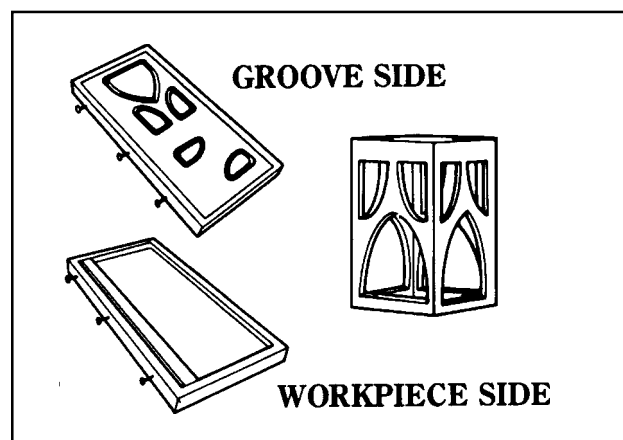

Figure 11. A typical clamp-in fixture and the project made with it.
2. Clamp-in fixtures...are best used when the outside profile of the product you're building is already cut, since any cutting on outside edges will damage the clamping device (See Fig. 11).